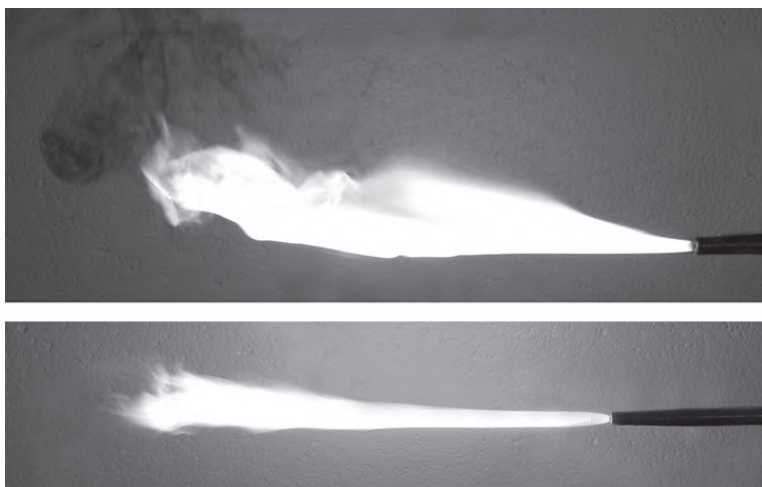

Figure 11: Adjusting the Flame
7. Continue opening the fuel valve until the flame stops smoking (see Figure 11).